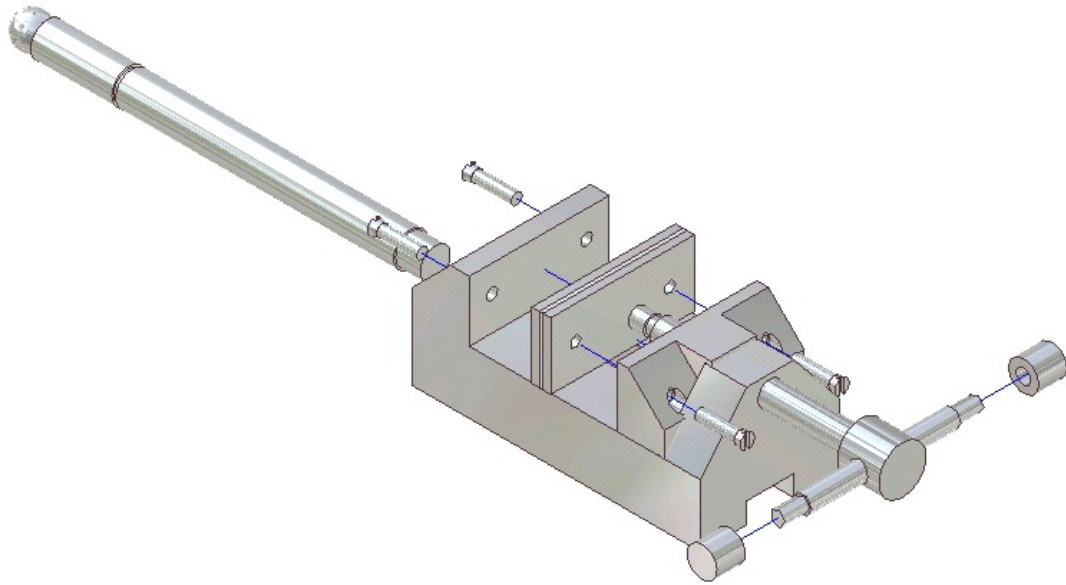
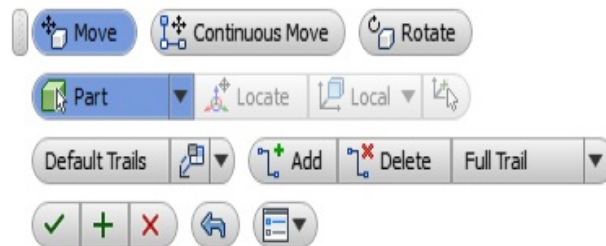

Figure 13-6 Exploded assembly displaying the interfering components
Figure 13-7 The mini toolbar displayed on choosing the **Tweak Component** tool
*Tip. If the explosion distance is large, the result of exploding the assemblies using the **Auto Explode** method may not be as desired. This is because with a large explosion distance, the components of an assembly will move to a large distance and start interfering with other components, refer to Figure 13-6. Therefore, if components need to be moved to a large distance, you should explode assemblies manually by dragging the green sphere of trails to a desired distance. To display the green sphere, move the cursor over a trail; a green sphere will be displayed at the start point of the trail. Now, you can drag the green sphere to the desired location.*
As mentioned earlier, if the distance by which the components move in the automatically exploded view is large, the components may interfere with one another, refer to Figure 13-6. This figure shows an automatic exploded view, in which the components are moved to a distance of 42 mm. Notice the interference between the Movable Jaw and the Base, between the two Jaw Faces, and between the Clamp Screw and the Base. To avoid such interferences, it is recommended that if the components need to be exploded to a large distance, you should create the exploded view manually by tweaking the components. Tweaking is defined as the process of adjusting the position of the assembled components with respect to the other components of the assembly by transforming them in the specified direction. The components can be tweaked by using the **Tweak Component** tool. The tweaked components can also be animated thus creating the animation of the assemblies. On invoking the **Tweak Component** tool, a mini toolbar will be displayed along with a triad. Figure 13-7 shows the mini toolbar. The options in this mini toolbar are discussed next.